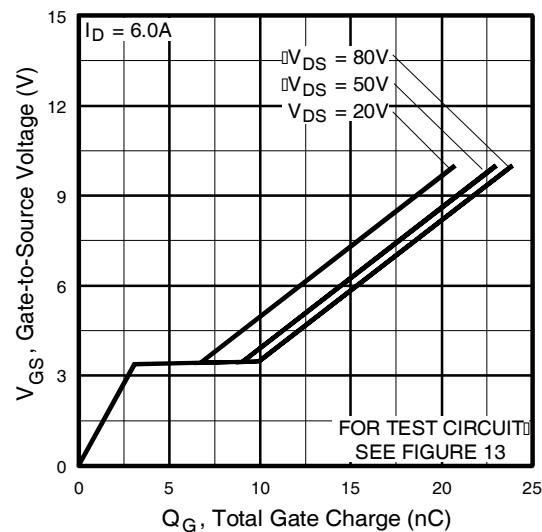

Fig 6. Typical Gate Charge Vs.
| Q_{gd} | Gate-to-Drain ("Miller") Charge | — | — | 10 | | $V_{\text{GS}} = 5.0\text{V}$, See Fig. 6 and 13 ④⑥ |